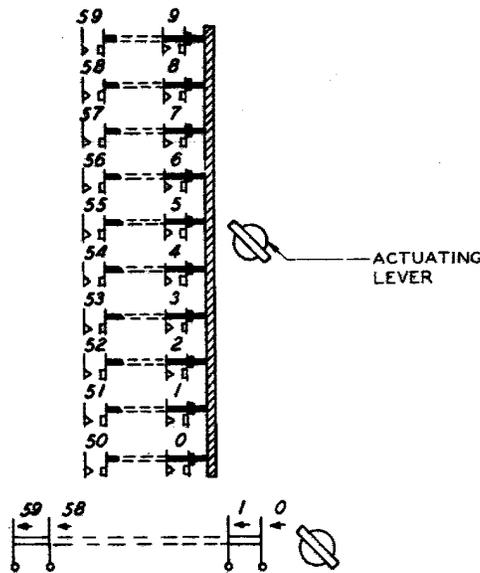

Fig. 94 – Contact Spring Arrangement as Viewed From the Front (contact side) — 216- and 217-Type Switches
3.07 The contact springs are numbered consecutively in vertical rows of 10 pairs of springs starting at the bottom with pair 0 in the row nearest the armature as shown in Fig. 94, and continuing with each vertical row of springs from right to left facing the contact side of the switch. On the schematic drawing the contact springs are not necessarily shown in numerical order.